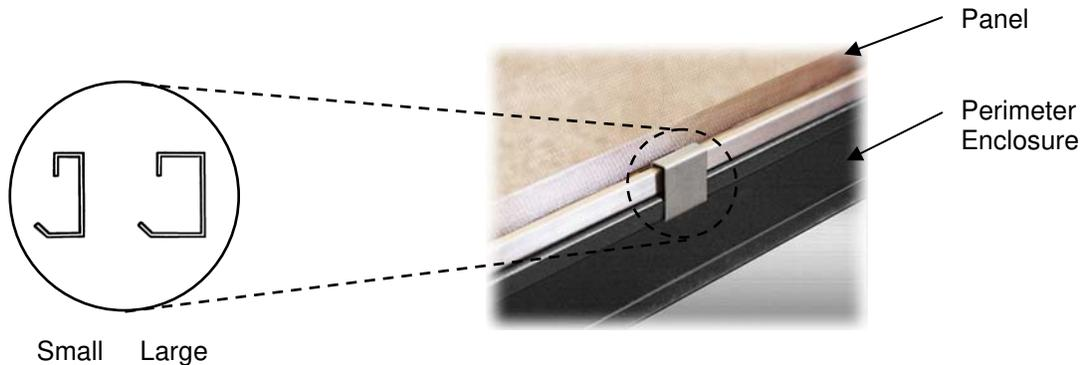

Figure 6 *Hold down clip*
Step 9 Snap two small size hold down clips evenly spaced along the bottom of rear panel the same as shown in figure 6 above for side panels.